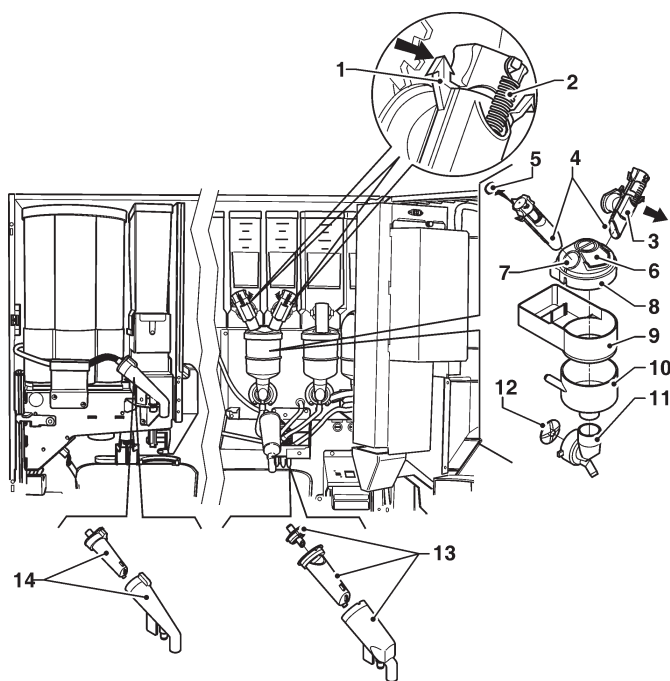

Fig. 7
- remove the powder collection drawers, the water funnels, the feeders and the mixer impellers from the mixers (see fig. 7);